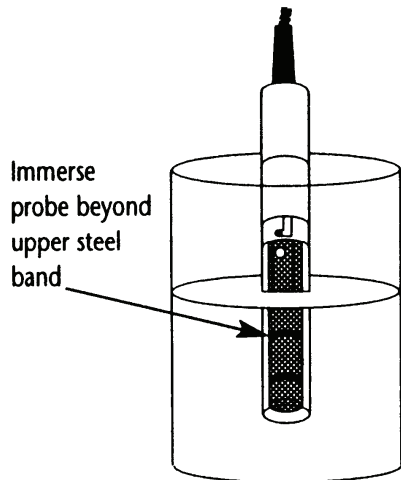

Figure 7 - Proper Immersion of the conductivity probe
2. Rinse the probe thoroughly with de-ionized (DI) water or a rinse solution, then rinse with a small amount of calibration standard.
3. With the yellow probe guard attached, dip the probe into the calibration standard. Immerse the probe tip beyond the upper steel band. Stir the probe gently to create a homogeneous sample. Allow time for the reading to stabilise. See Figure 7.